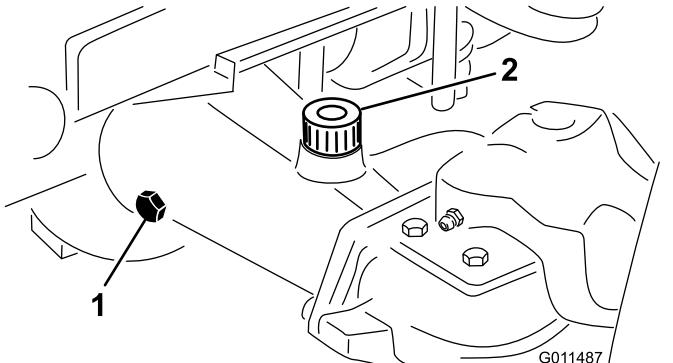

Figure 84
- Remove a check plug from one end of the axle and ensure that the lubricant is up to the bottom of the hole (Figure 84).